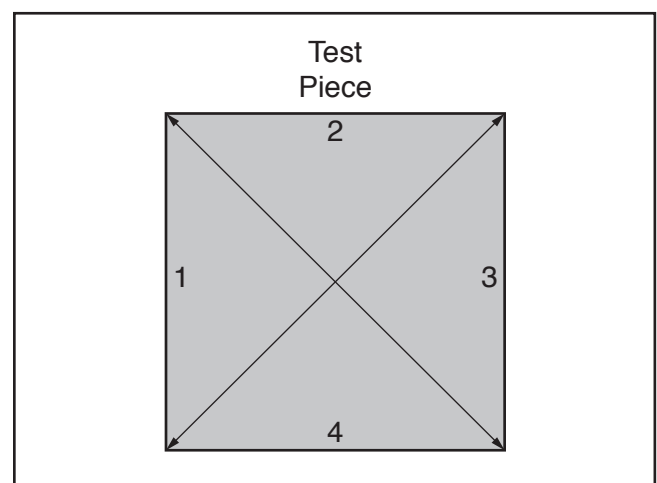

Figure 162. Diagonals to measure on test piece.
6. Measure test piece diagonally from corner-to-corner, as shown in **Figure 162**.